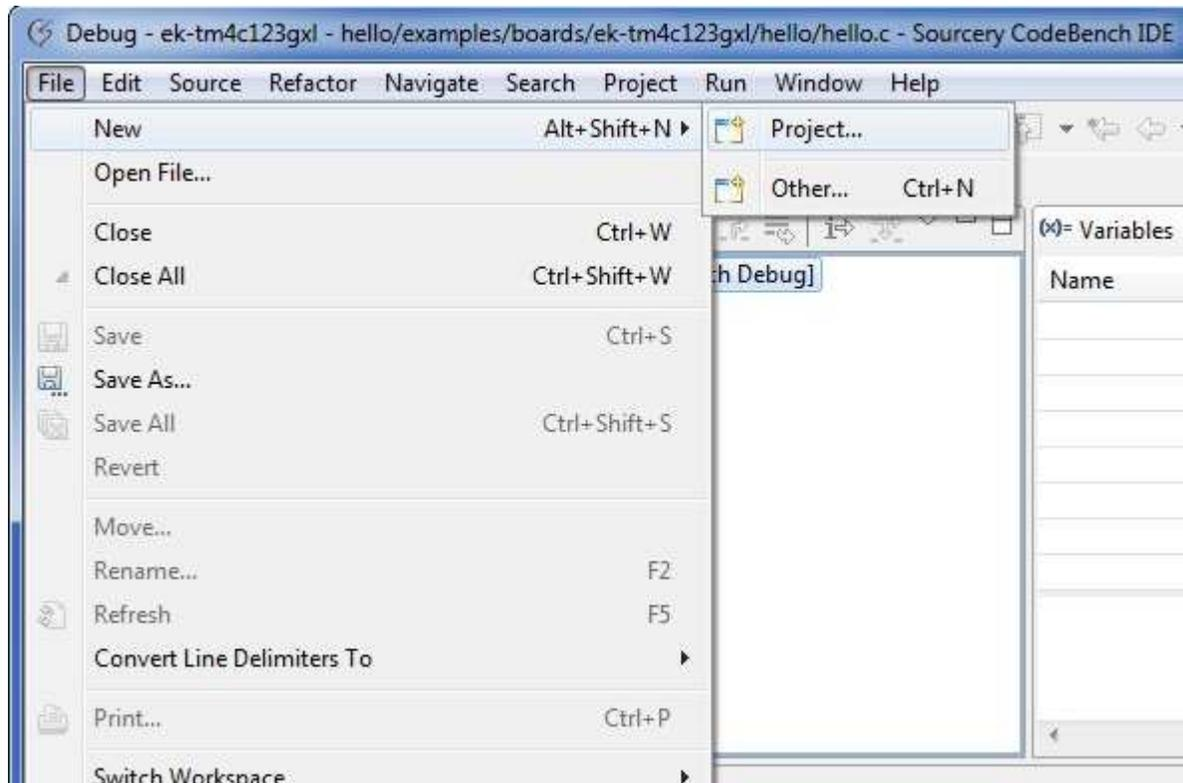

Figure 7.
1. To add a new project to your workspace (assuming you're still using the example described above), go to `File → New → Project`. (see Figure 7).